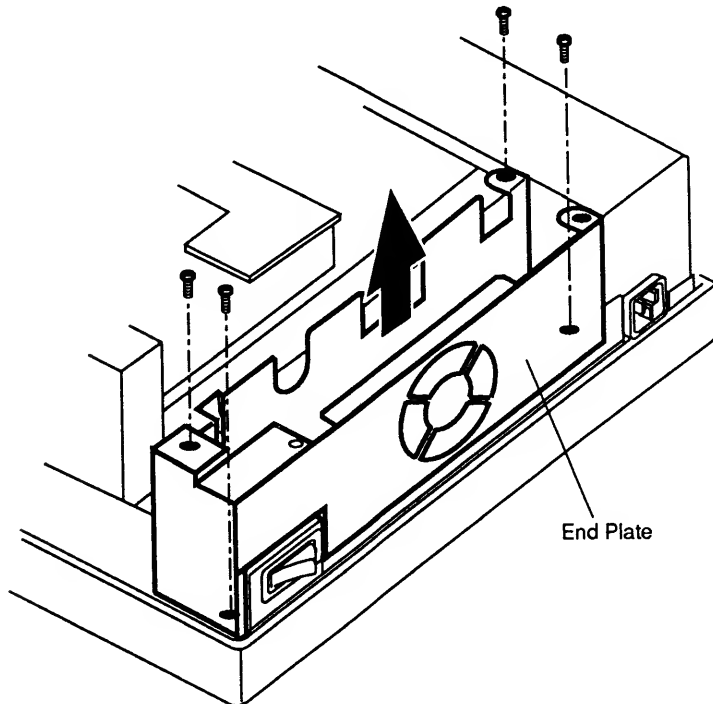

Figure 2-14 End Plate (LaserWriter NT, SC, and NTR)
2. Remove the four silver-colored screws that hold the end plate to the printer chassis (**Figure 2-14**).
3. Lift the end plate out of the printer (**Figure 2-14**).